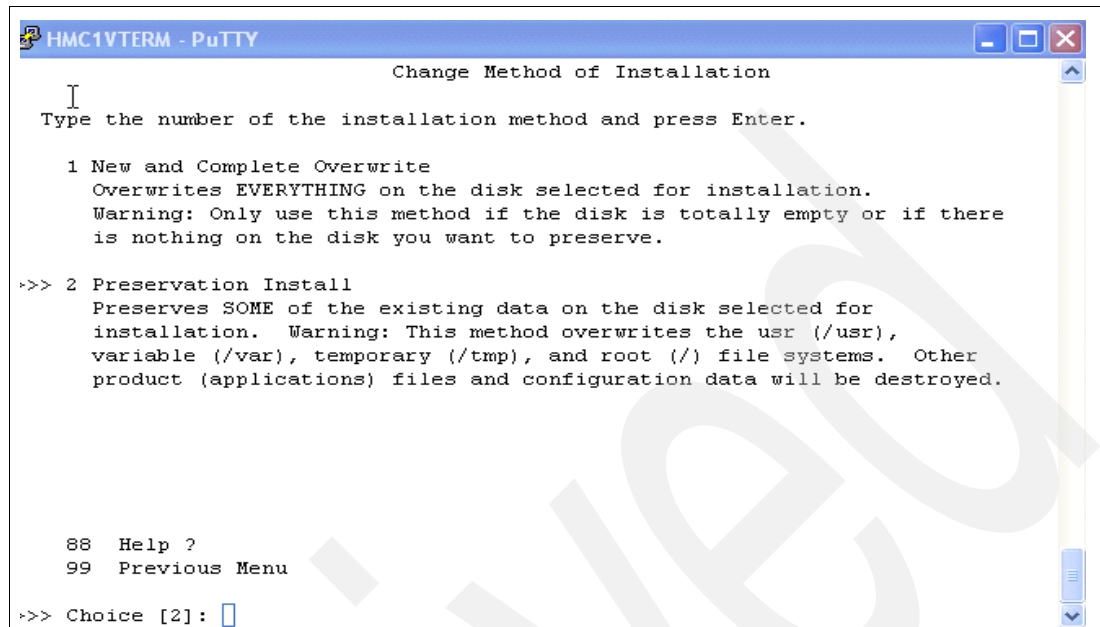

Figure 4-19 Change Method of Installation
- m. Select option 1 New and Complete Overwrite. This option overwrites everything on the selected disk, as shown in Figure 4-19.